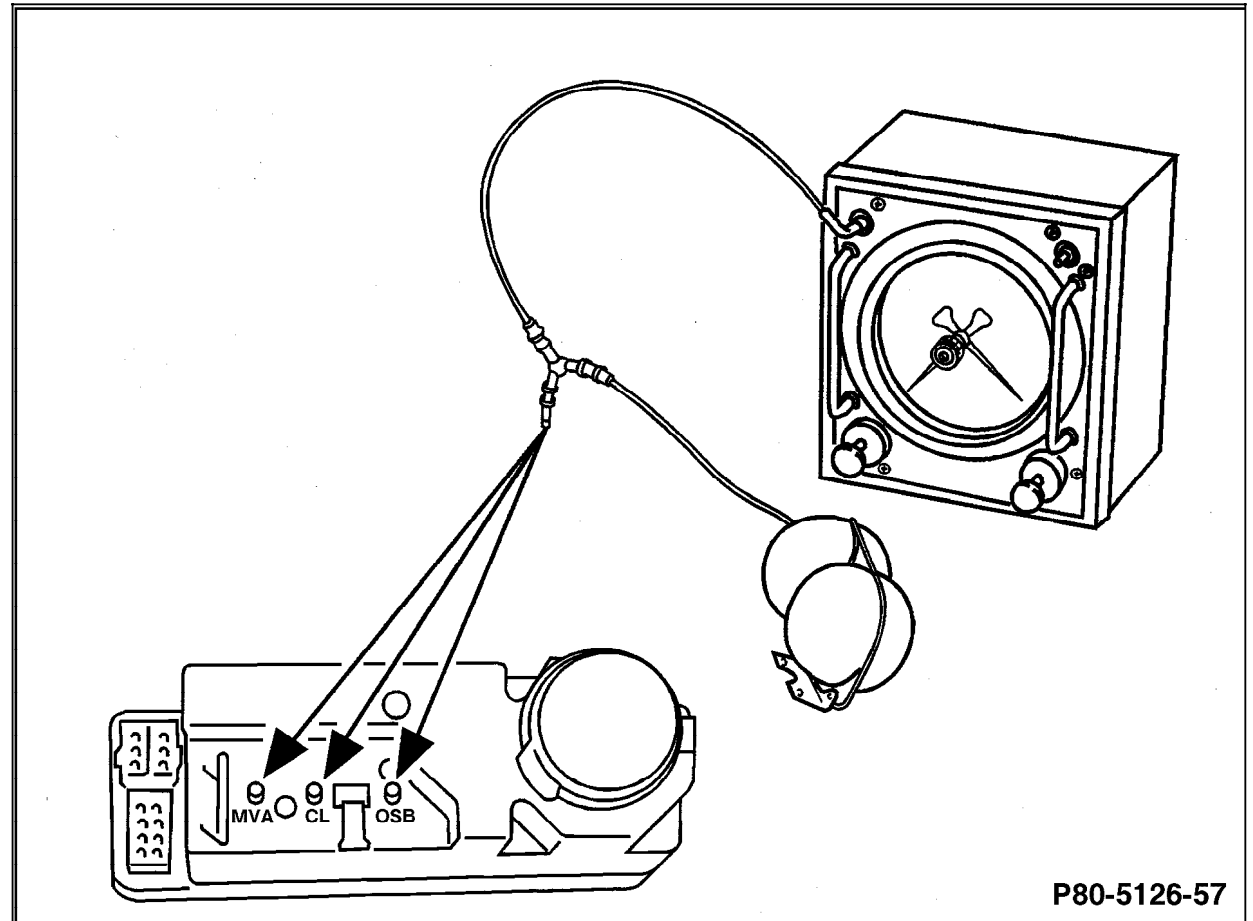

Figure 1
6. Connect vacuum/pressure tester with reservoir to PSE control module (see 32, Figure 1).